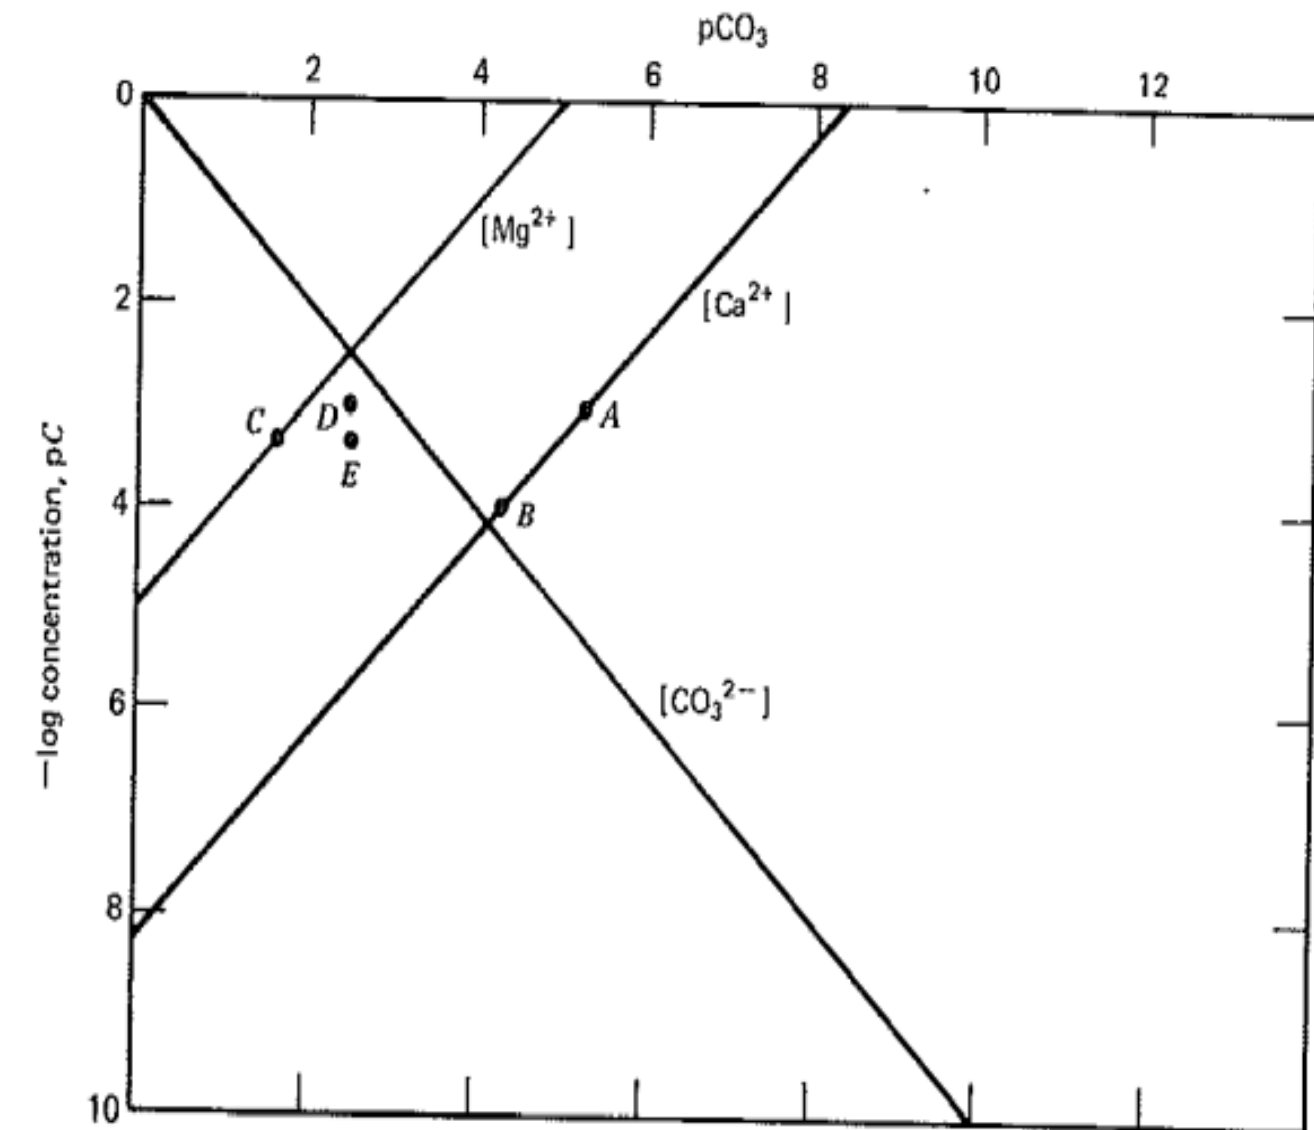

Fig. 6-4. The pC-pH diagram for Mg^{2+} in equilibrium with $\text{MgCO}_{3(s)}$ and Ca^{2+} in equilibrium with $\text{CaCO}_{3(s)}$.
2. Similarly for Mg^{2+} , if $[\text{Mg}^{2+}] = 5 \times 10^{-4}$ at equilibrium, $\text{pCO}_3 = 1.7$ ($[\text{CO}_3^{2-}] = 10^{-1.7} \text{ M}$, (point C, Fig. 6-4). When $\text{pCO}_3 = 0.7$, $[\text{Mg}^{2+}] = 5 \times 10^{-5}$.